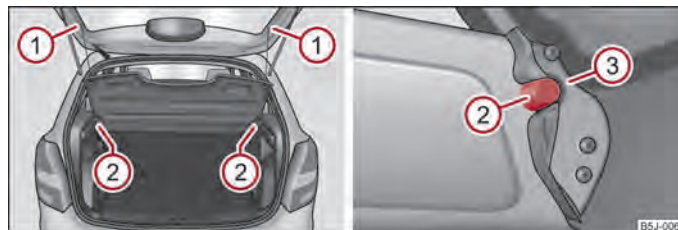

Fig. 47 Remove/install the luggage compartment cover
- Unhook the support straps ① ⇒ fig. 47.
- Remove the luggage compartment cover from the holders ② by knocking lightly on the bottom side of the cover in the area between the holders.
- To re-install, place the cover on the contact surfaces of the side trim panel and position the mounts on the cover ③ above the holders ② at the side trim panel.
- Attach the support straps ① on the boot lid.